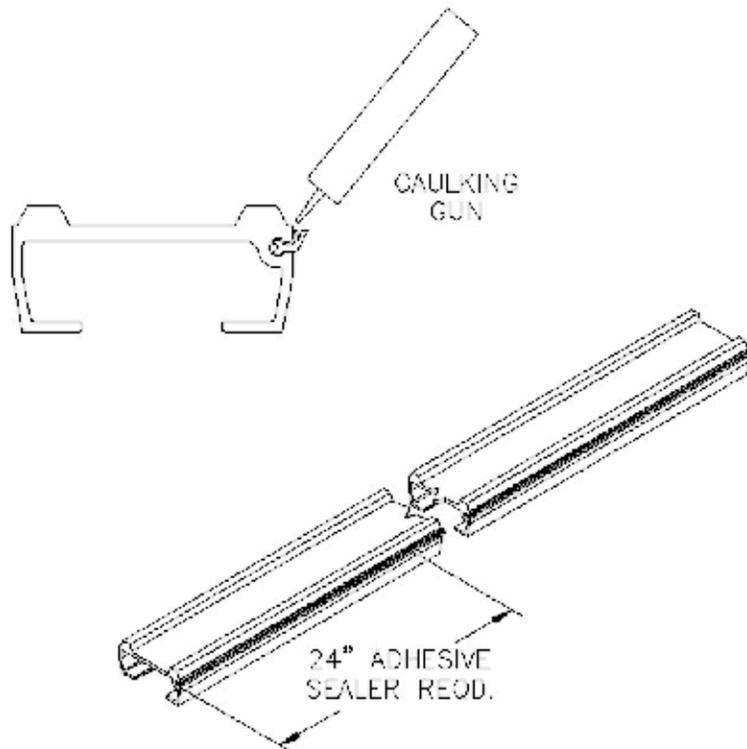

Figure 50
G. A 24" long bead of adhesive sealer is required between the seal and the floor slat (Figure 50). Pull the seal outward to apply the adhesive. Press the seal against the floor slat after applying the adhesive. Allow the adhesive to dry before installing the floor slat.